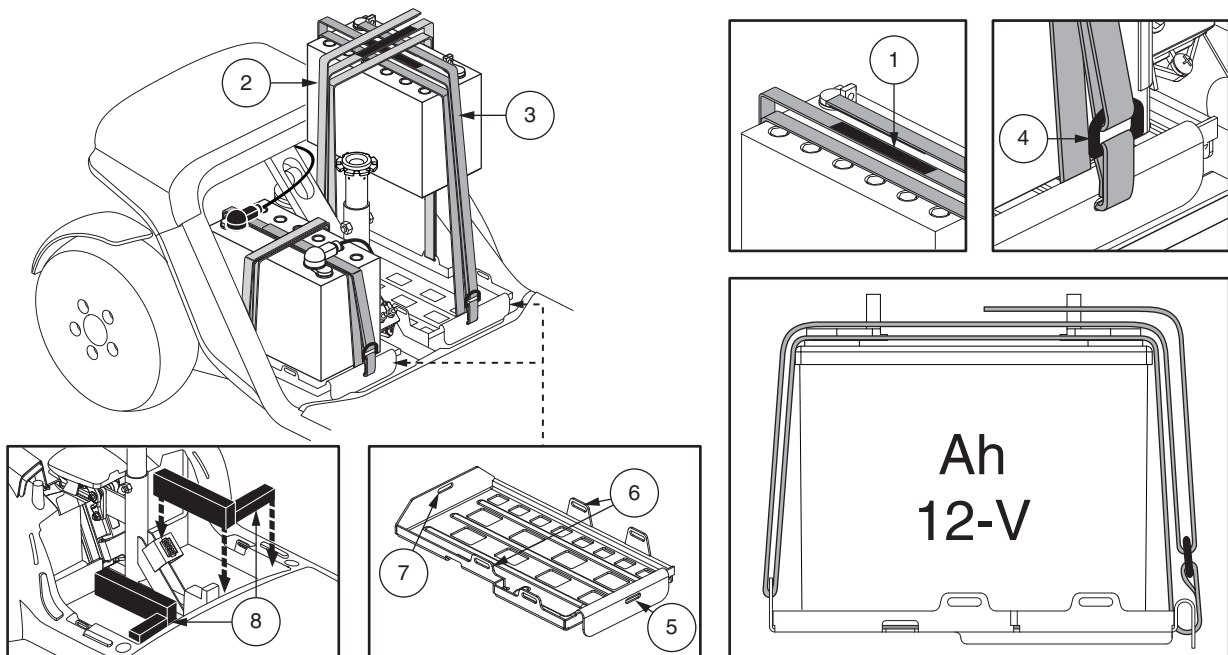

Figure 18. Battery Securement for Models 614 and 714
**NOTE:** Some scooters have spacers installed to secure the batteries. You may want to remove the spacers for safe keeping until the batteries are replaced in the scooter. See figure 18.